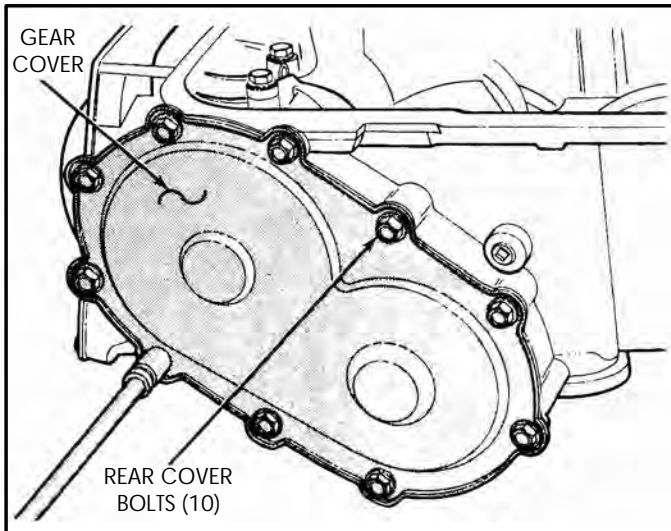

Figure 116
2. Remove the 10 gear cover bolts, as shown in Figure 116.